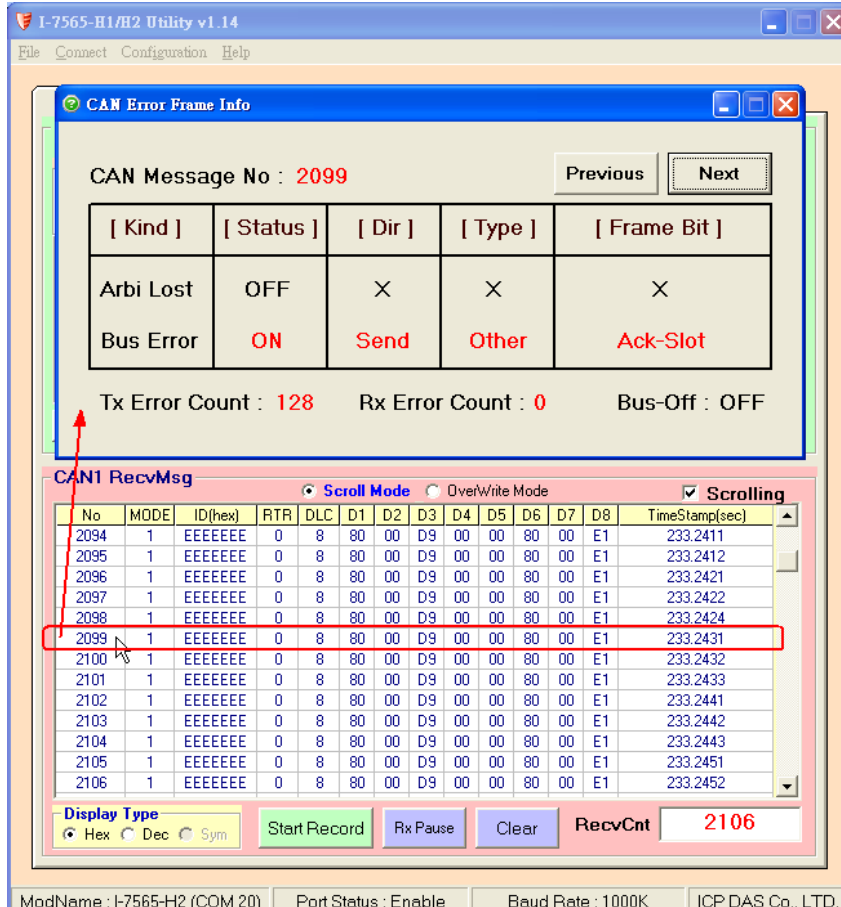

Figure 15-2 The detailed CAN Error Information
- (3) If CAN error has happened, the CAN error information will be shown in ”**CAN RecvMsg**” field. Users can click the error column to see the detailed error information like Figure 15-2.